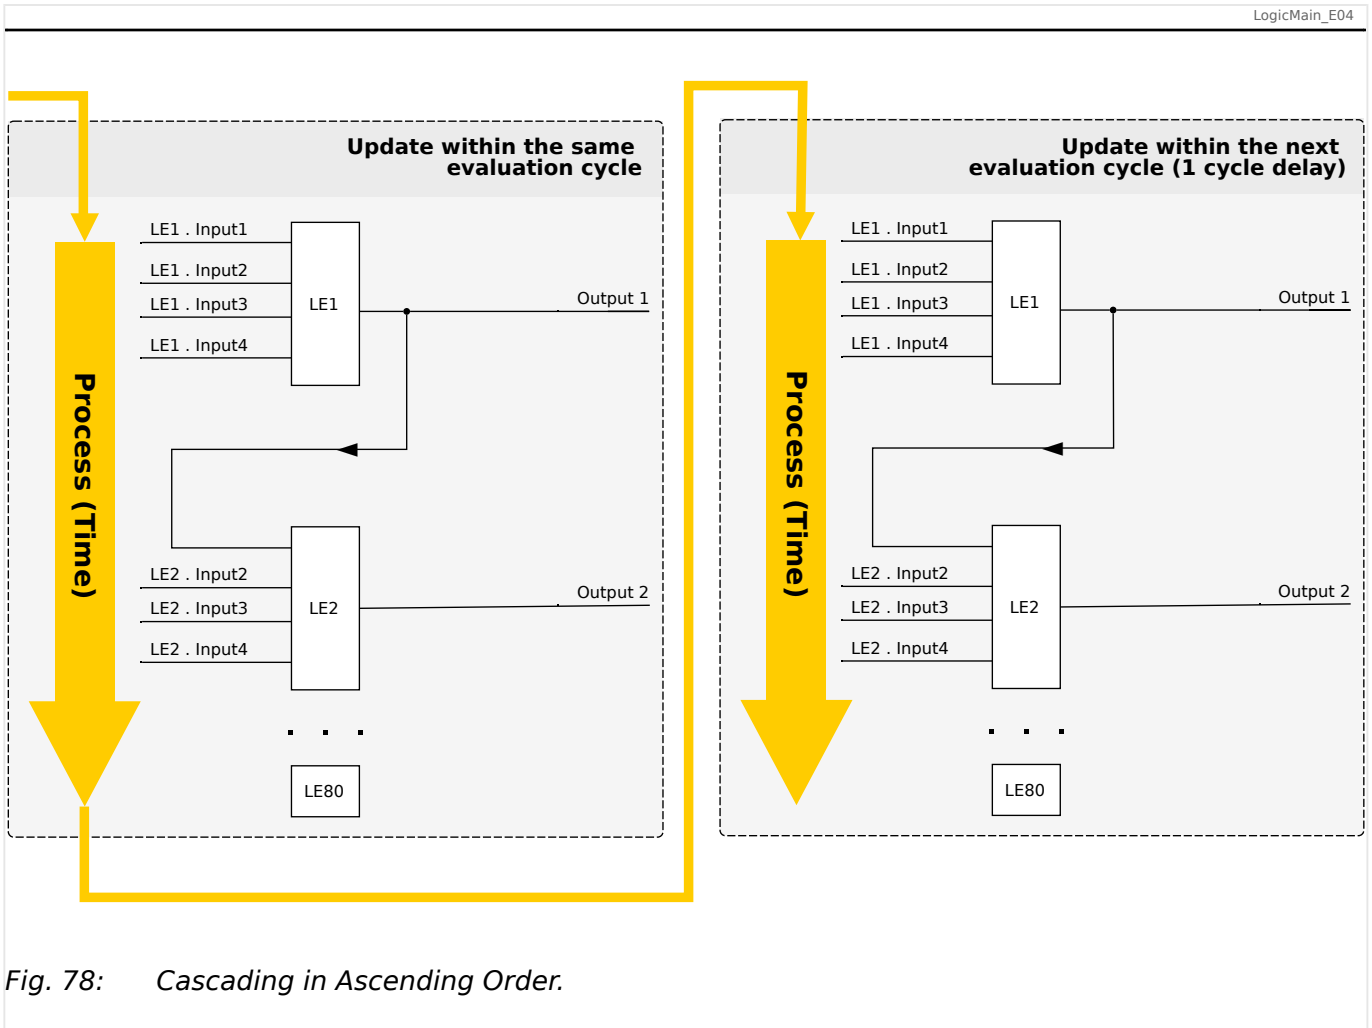
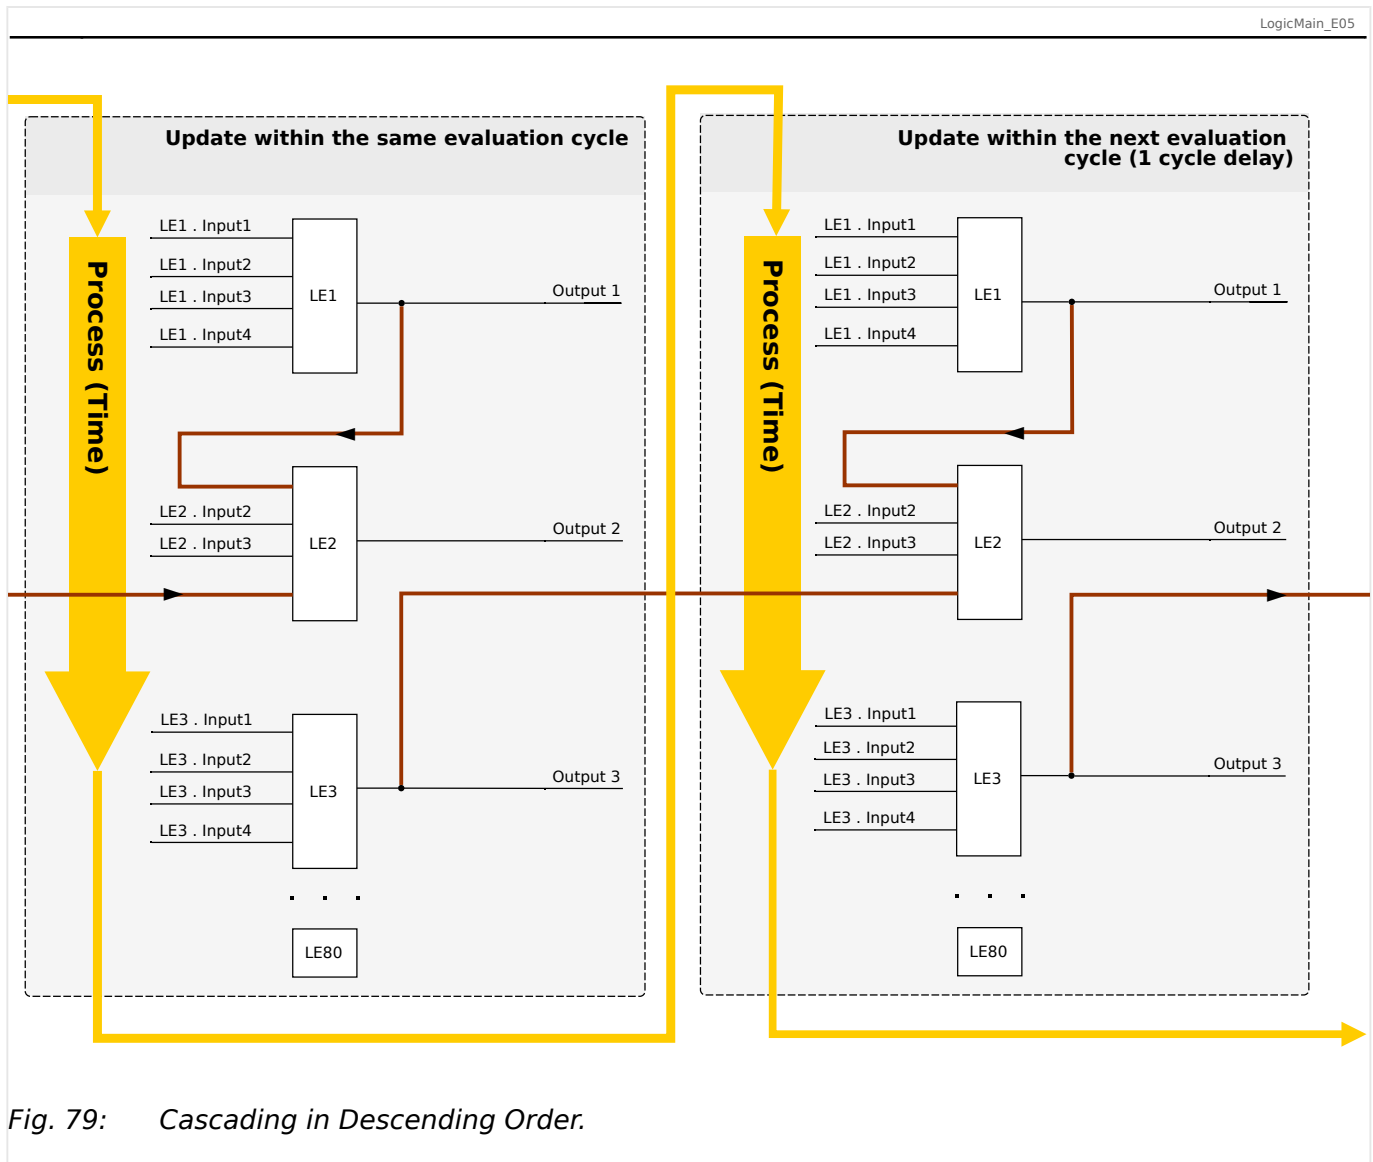

Fig. 78: Cascading in Ascending Order.
Fig. 79: Cascading in Descending Order.
- **Ascending** sequence means that some output is fed into the input of a logic equation with **higher** number. For instance, diagram  Fig. 78 below shows an example where the result of Logic Equation LE1 is used as an input of Logic Equation LE2.
- **Descending** sequence means that some output is fed into the input of a logic equation with **lower** number. For instance, diagram  Fig. 79 shows an example where the result of Logic Equation LE3 is used as an input of Logic Equation LE2.
Both ascending and descending sequences may be used and combined one with the other, with no immediate difference. However, due to the evaluation of all equations in ascending order the actual run-time values that are fed in at the input of an equation will have a different “age”, as is shown in  Fig. 78 and  Fig. 79 below.
In the example shown in Fig. 79 above, “Logic Equation 2” uses the output states of two other equations, “Logic Equation 1” and “Logic Equation 3”. The result of “Logic Equation 1” is used in ascending order and has therefore been evaluated within the same process cycle. The result of “Logic Equation 3” is used in descending order and has therefore been evaluated in the previous process cycle.